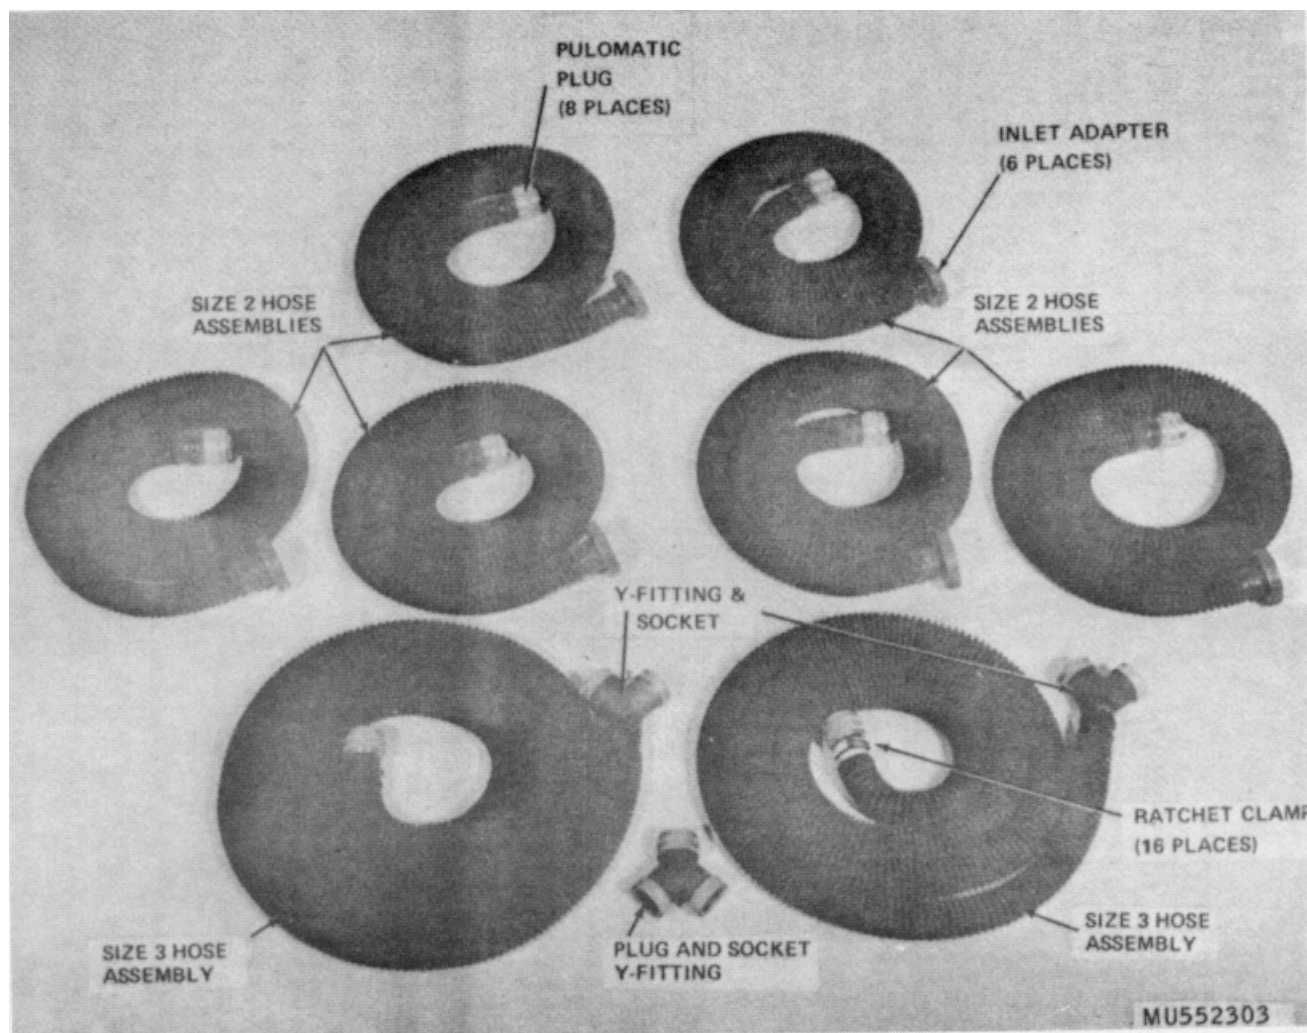

Figure 1-3. Hoses
c. *Hoses.* The hose assemblies (fig. 1-3) consist of two size 3 hose assemblies and six size 2 hose assemblies.